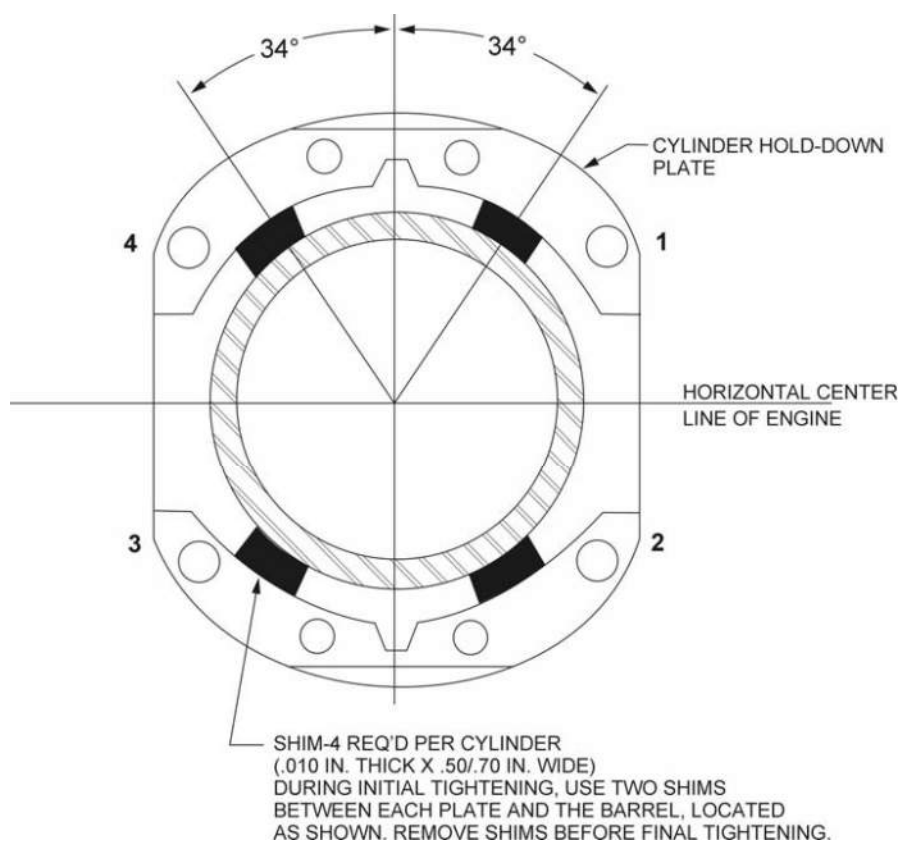

Figure 5-4. Location of Shims Between Cylinder Barrel and Hold-Down Plates (where applicable) and Sequence of Tightening Cylinder Base Hold-Down Nuts
- (5) Assemble hold-down plates (where applicable) and cylinder base hold-down nuts and tighten as directed in the following steps.
- (a) *(Engines using hold-down plates)* – Install shims between cylinder base hold-down plates and cylinder barrel, as directed in Figure 5-4, and tighten ½ inch hold-down nuts to 300 in.-lbs. (25 ft.-lbs.) torque, using the sequence shown in Figure 5-4.
- (6) Install new shroud tube oil seals on both ends of shroud tube. Install shroud tube and lock in place as required for type of cylinder.
- (7) Assemble each push rod in its respective shroud tube. Then place rotator cap over end of exhaust valve stem. Assemble each rocker in its respective position by placing rocker between bosses and by sliding valve rocker shaft in place to retain rocker.
- (8) Be sure that the piston is at top center of compression stroke and that both valves are closed. Check clearance between the valve stem tip and the valve rocker. In order to check this clearance, place the thumb of one hand on the valve rocker directly over the end of the push rod and push down so as to compress the hydraulic tappet spring. While holding the spring compressed, the valve clearance should be between .028 and .080 inch. If clearance does not come within these limits, remove the push rod and insert a longer or shorter push rod, as required to correct clearance.